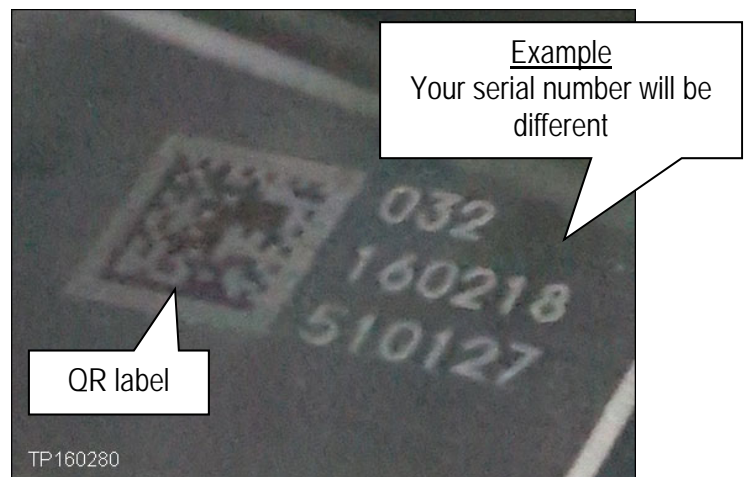

Figure 2A
- If there is no serial number (the area shown in Figure 2A is blank), the ABS control unit (ABS actuator) is OK. **No further repair is required.**
- In the example in Figure 2A, the serial number is 032160218510127 (this is an example - your serial number will be different).